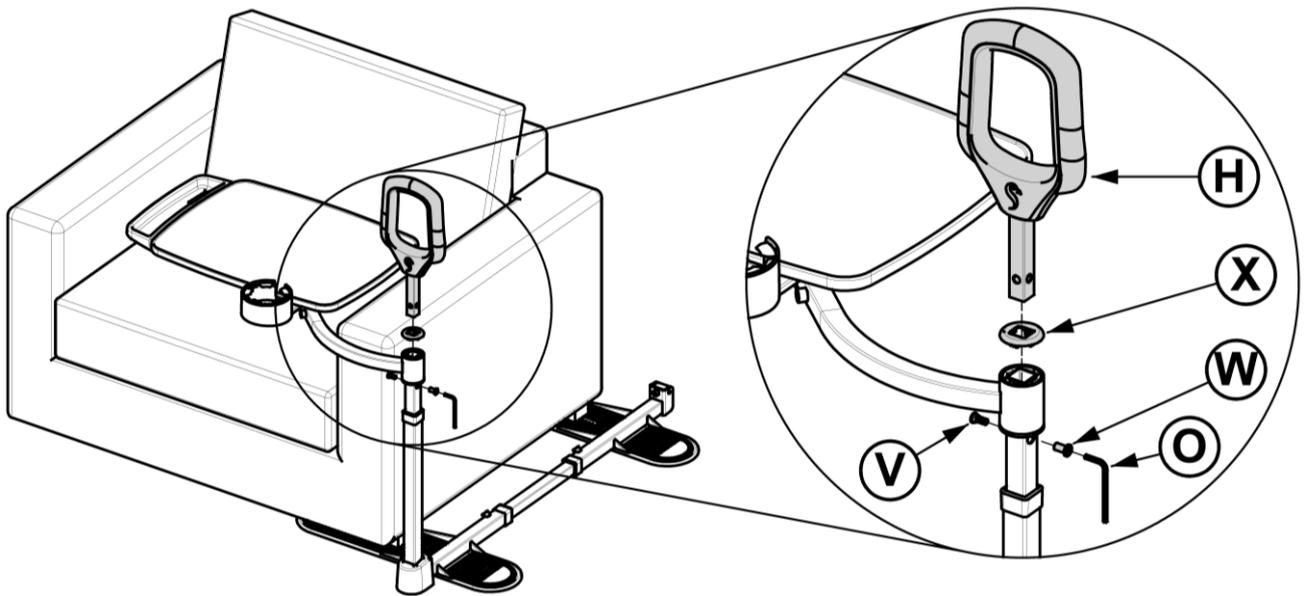

FIGURE 28
28. Insert Handle **H** through Cap **X** into uprights. Secure with Bolts **V** and **W**, as shown in *FIGURE 28*.